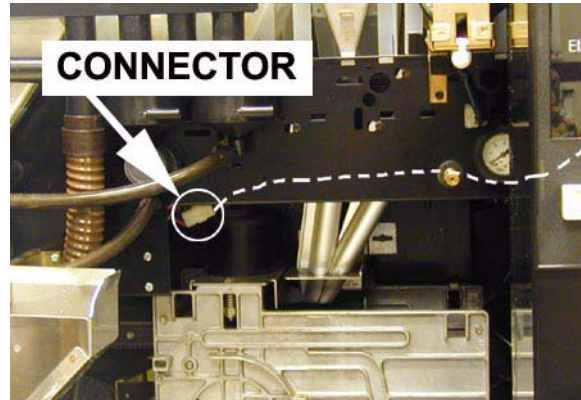

Figure 7
- c. The cable is shown routed between cup station and cup sensor PCB (see figure 7).